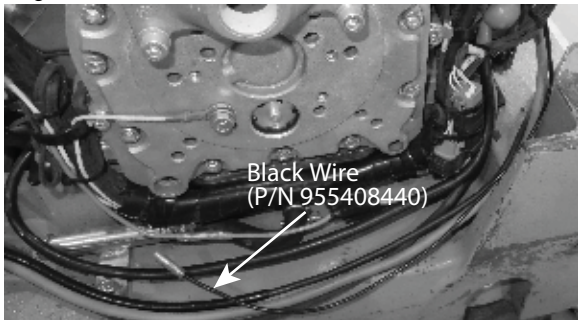

Figure 41. Black Wire Routing
7. Route the female end of black wire (P/N 955408440) earlier along the right side of the unit as shown in Figure 41.